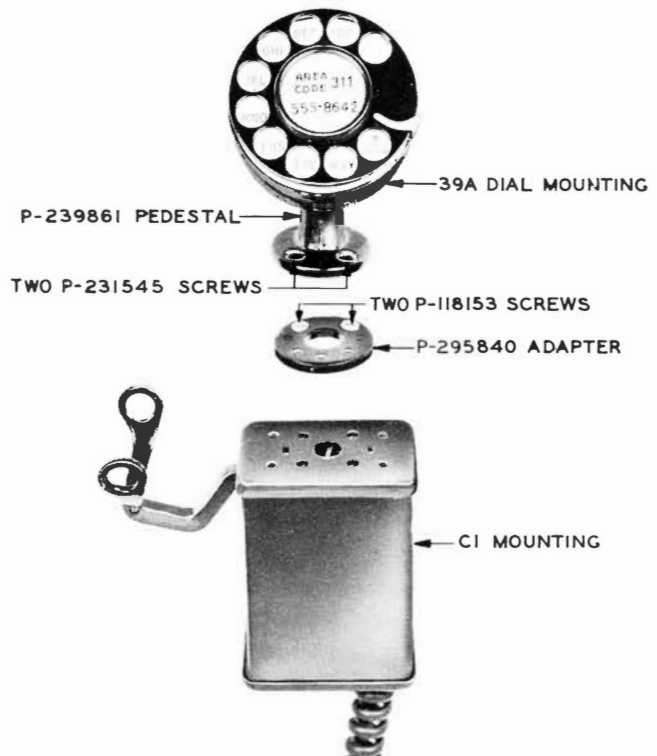

Fig. 16 — 39A Dial Mounting with C1 Hand Set Mounting
6.07 The 39A dial mounting used with C1 hand set mounting has two mounting holes in base and can be attached directly to C1 hand set mounting with the two screws furnished (see Fig. 16).
- An adapter and two mounting screws are furnished with 39A dial mounting (see Fig. 16).